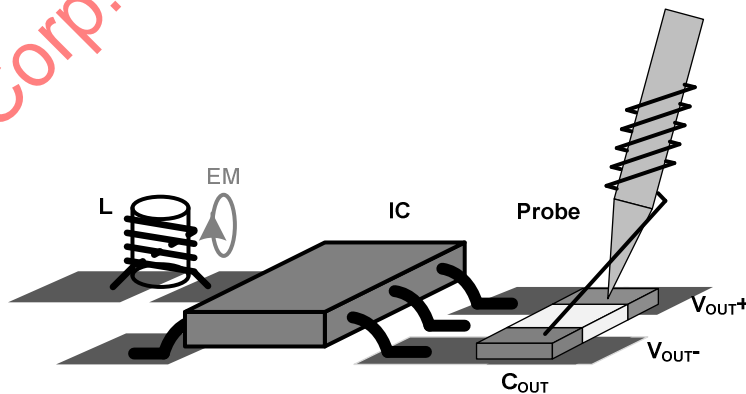

Figure.5 Recommended way to measure the output voltage ripple
A proper output ripple measurement should be done according to Figure 5 setup. Output voltage ripple should be measured across the output ceramic cap near the IC.
1. Remove the ground clip and head of the probe. Wind thin wires around the ground ring of the probe. Solder the end of the ground ring wire to the negative node of the COUT. Touch the probe tip to the positive node of the COUT. Refer to Figure 5.
3. Change the probing direction to decouple the electromagnetic noise generated from the nearby buck inductor (Refer to Figure 5).